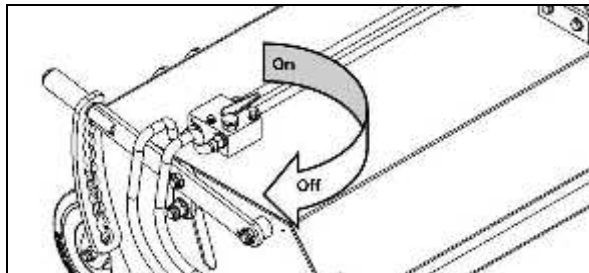
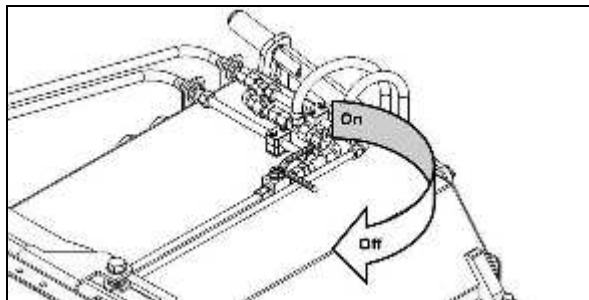

Fig. 4.6
Fig. 4.7
- Close stopcock to hydraulic motor of the side brush (Fig 4.6) as well as hydraulic cylinder of the collector (Fig 4.7).